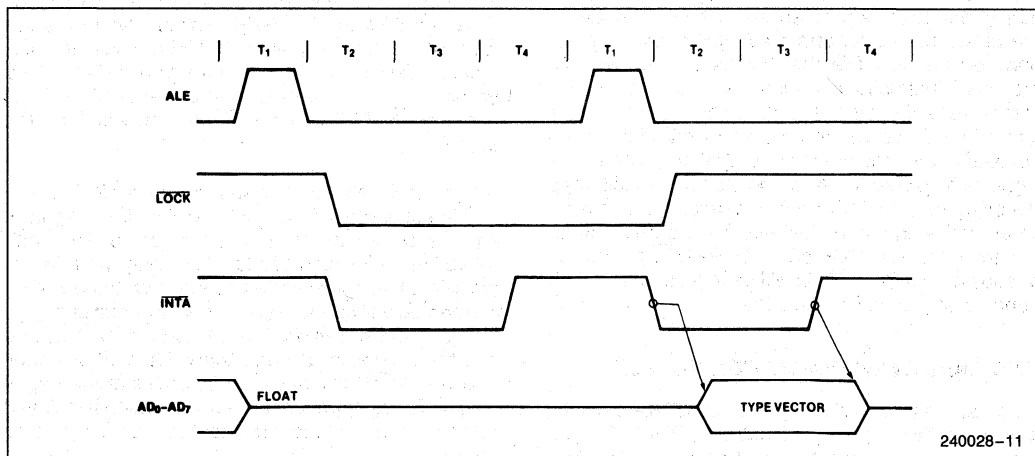

Figure 10. Interrupt Acknowledge Sequence
During the response sequence (See Figure 10), the processor executes two successive (back to back) interrupt acknowledge cycles. The 80C88A emits the LOCK signal (maximum mode only) from T2 of the first bus cycle until T2 of the second. A local bus "hold" request will not be honored until the end of the second bus cycle. In the second bus cycle, a
The basic difference between the interrupt acknowledge cycle and a read cycle is that the interrupt acknowledge (INTA) signal is asserted in place of the read (RD) signal and the address bus is floated. (See Figure 10.) In the second of two successive INTA cycles, a byte of information is read from the data bus, as supplied by the interrupt system logic (i.e. 82C59A priority interrupt controller). This byte identifies the source (type) of the interrupt. It is multiplied by four and used as a pointer into the interrupt vector lookup table, as described earlier.